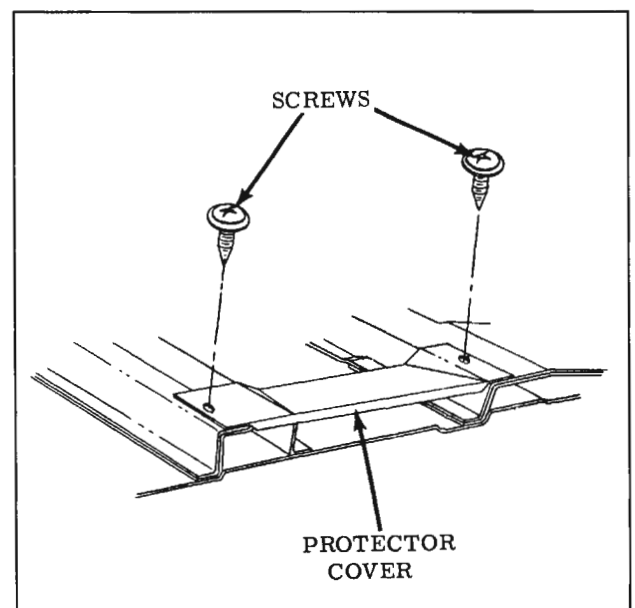

Fig. 16-312 Front Seat Side Protector Cover
2. Remove screws securing cover to floor pan and remove cover. (Fig. 16-312)